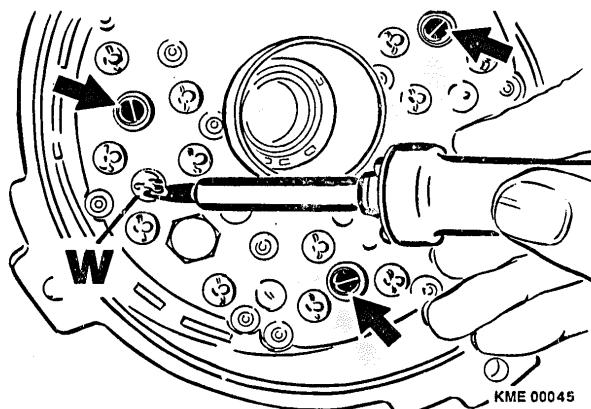

Figure 34 Rectifier Mounting and
10. Install the three (3) rectifier mounting screws and torque to 1.3 to 1.7 Nm (11.5 to 15 in. lbs.).
11. Solder the soldering lug of terminal W to the solder pad of the rectifier assembly with rosin core solder. (Figure 34)